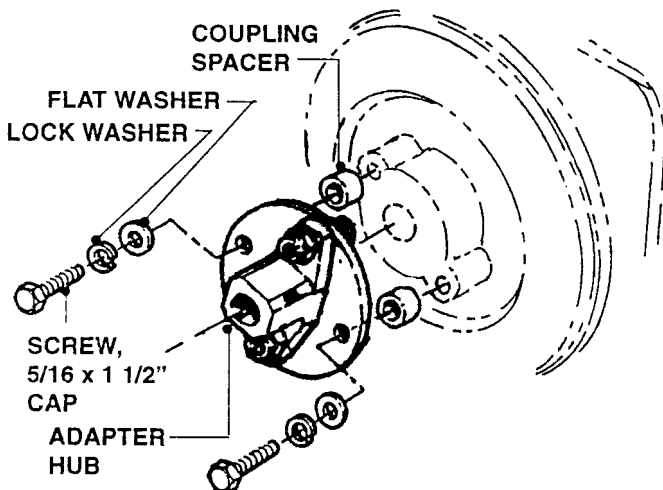

FIGURE 4.10
- 4. Check other Fuel System Components frequently and replace any parts that are leaking or showing worn spots or cracks (refer to Figure 4.10 on Page 4.5).
- B. Remove the two (2) Hex Hd. Cap Screws, Lock Washers and Flat Washers which secure the Flexible Disc to the Engine Driveshaft.
- C. Slide Adapter Hub/Flexible Disc Assembly away from Engine. Place Coupling Spacers and Washers aside for reassembly. Refer to Figure 4.10.